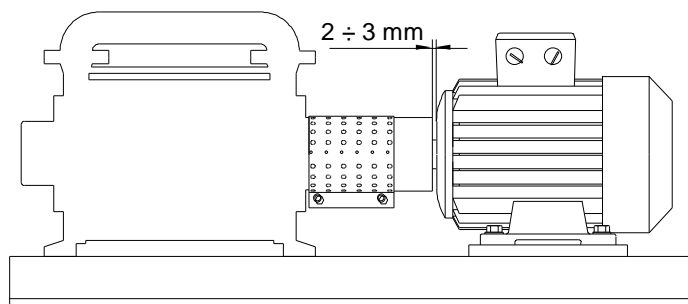

Fig. 28
- 11 - Install the coupling guard and its extension (if applicable) on the pump, secure the two locking bolts. The gap between motor frame and the guard should not be greater than 2 to 3 mm (see fig. 28).